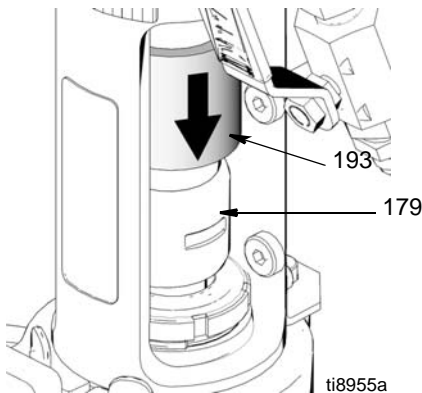

FIG. 25
- 6 (Fig. 25) Slide couple cover (193) down over rod couplers (179).